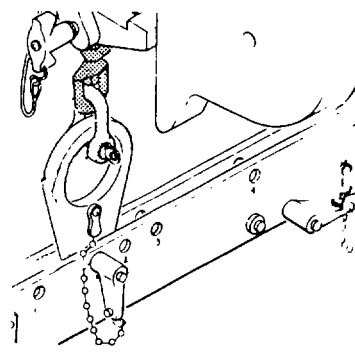

Figure 6-28. Shackle Attachment.
(16) Using ROLL/ELEVATION lever, raise index forks as high as you can.
(17) Approach pallet from side until hoist adapter swivel is directly over lifting hole No. 6 of missile hoisting beam XM15.
(18) Still using ROLL/ELEVATION lever, position hoist adapter swivel above hole No. 6. Attach shackle between swivel and eye at hole No. 6 (figure 6-28). Take up slack.